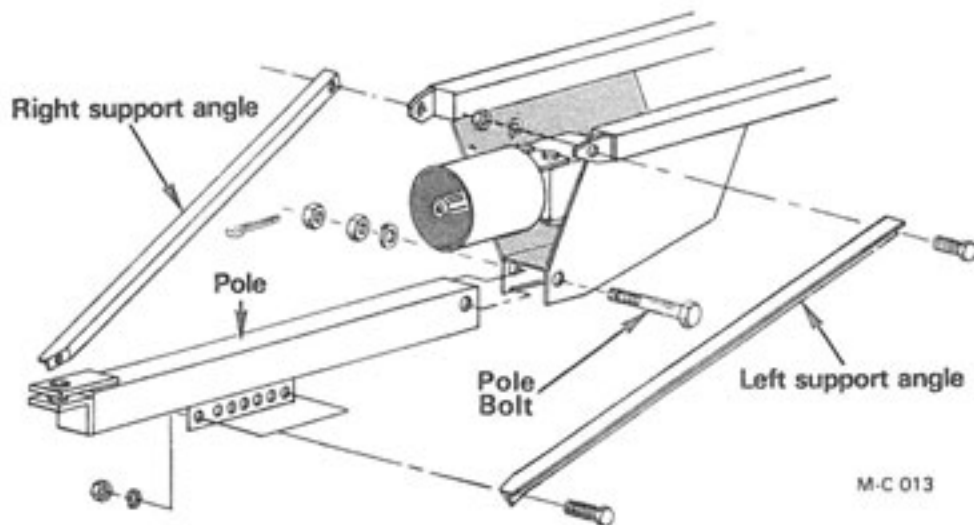

Figure 5
1. Lift the front of the Shredder with a chain hoist and place the pole in position under the gear box and install the pole bolt, lockwasher, hex nuts and cotter pin, see Figure 5 and 6.
2. There are seven pole support angle mounting holes on each side of the pole, see Figure 5 and 6. Select the position that will set the pole at the correct tractor drawbar height and keep the Shredder body as level as possible (see note). Secure the pole support angles with four  $\frac{3}{4}$ "-10 x 2" (Grade 5) hex-head capscrews, lockwashers and nuts.